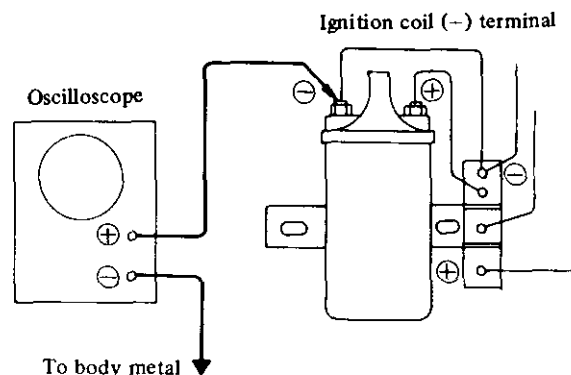
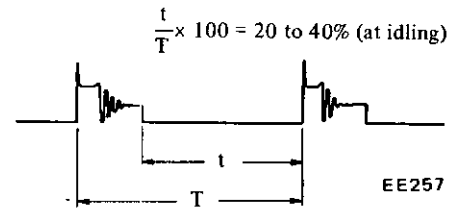

Fig. EE-82 Checking operation of transistor ignition unit
Fig. EE-84 Wave form of duty pulse
5. Connect oscilloscope as shown in Figure EE-82, rotate the starter motor and observe the wave form on the oscilloscope.
2. While the engine is idling, observe the wave form on the oscilloscope in the same way as stated in item 5-1, Figure EE-82. Determine the ratio t/T as shown in Figure EE-84.
1. Connect a circuit tester as shown in Figure EE-82 or EE-85; positive terminal of tester is connected to "L" color wire and negative terminal of tester is grounded.
1. When using an oscilloscope instead of a tester, arrange the connection in the same way as shown in Figure EE-82 or Figure EE-85. Turn on ignition switch.